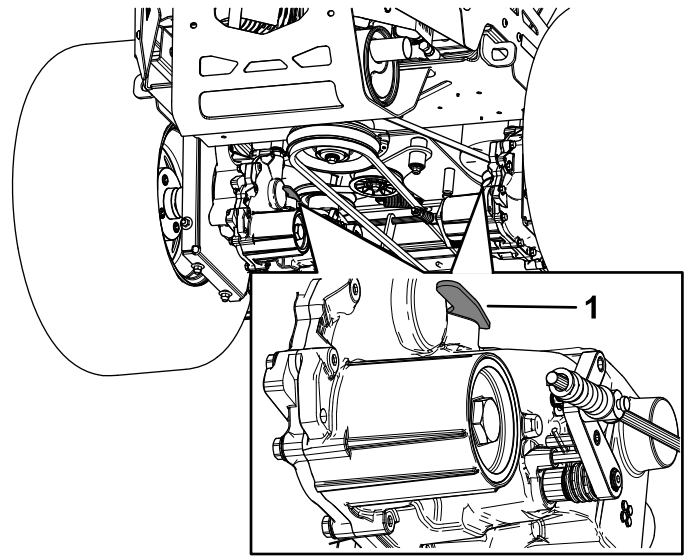

**Figure 34**
3. To push the machine, move both bypass levers forward and lock them into place (Figure 34).
5. To run the machine, move the bypass levers rearward and lock them into place (Figure 34).